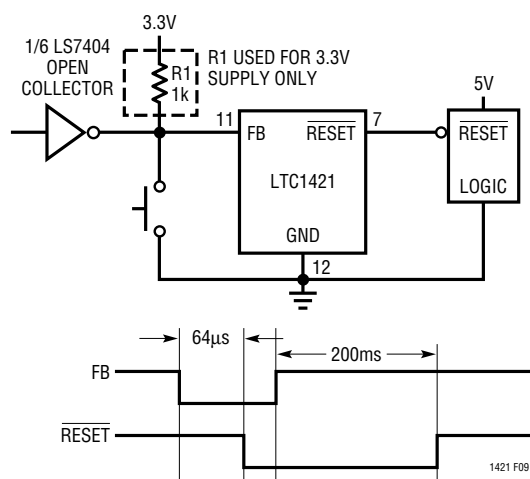

Figure 9. Generating a Soft Reset
A soft reset that doesn't cycle the supply voltage can be generated externally using Pin 11 (FB) as shown in Figure 9. For a 5V supply the FB pin is left floating to set the internal supply monitor trip voltage to 4.65V. However, if the FB pin is pulled to ground for more than 64 μ s via a push button or open-collector logic gate, the internal trip point will go to 5.88V and the RESET pin will pull low. RESET will remain low for 200ms after the FB pin is released. The RESET signal will also be pulled low when the voltage at the V_{OUTLO} pin dips below 4.65V for more than 64 μ s. When using a 3.3V supply, a 1k resistor must be connected from the FB pin to V_{CCLO} to set the internal trip point to 2.90V.